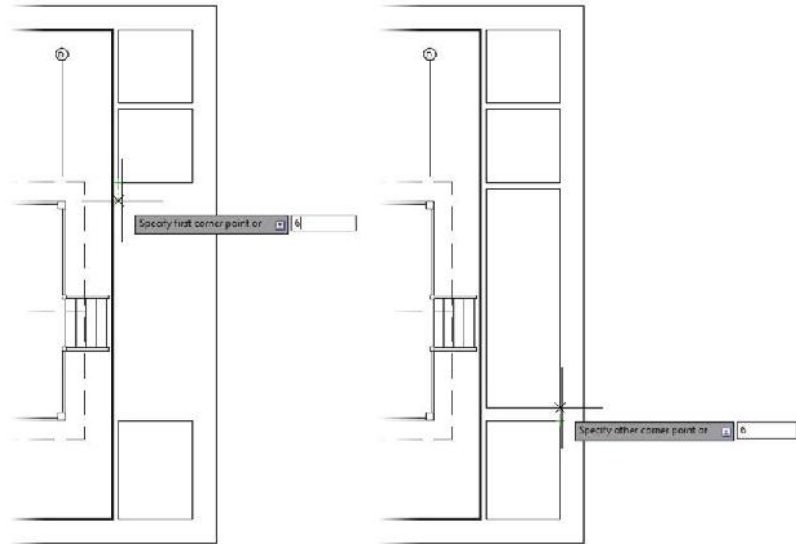

FIGURE 8.46: Using Object Snap Tracking to acquire the first corner point (left) and second corner point (right)
12. Use Object Snap Tracking to compose the final rectangle 6" (150 mm) below the top series of rectangles, and 6" (150 mm) above the bottom rectangle, as shown in Figure 8.46).